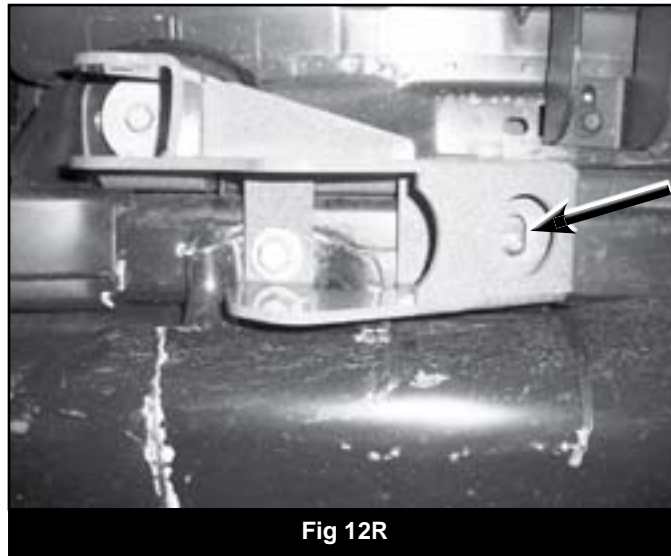

Fig 12R
23. Temporarily install the new bracket passenger's side control arm bracket (01986) with the new 12mm x 35mm bolt (Fig 12R).
24. Mark holes to drill (Fig 12R/13R). Use drill template at the end of this instruction sheet to locate the hole to be drilled through the front side of the body mount (Fig 14R – driver's side shown). Set the edge of the template up flush to the frame surface.